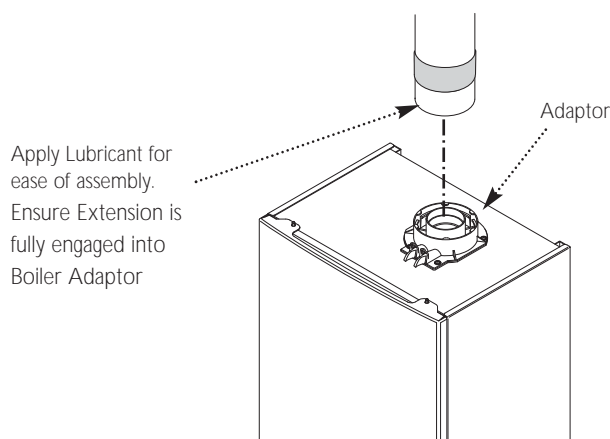

Fig. 54
15. Engage the extension into the adaptor up to this position (Fig. 54). Once the installation of the flue is complete and all support brackets are securely in place remove the tape.